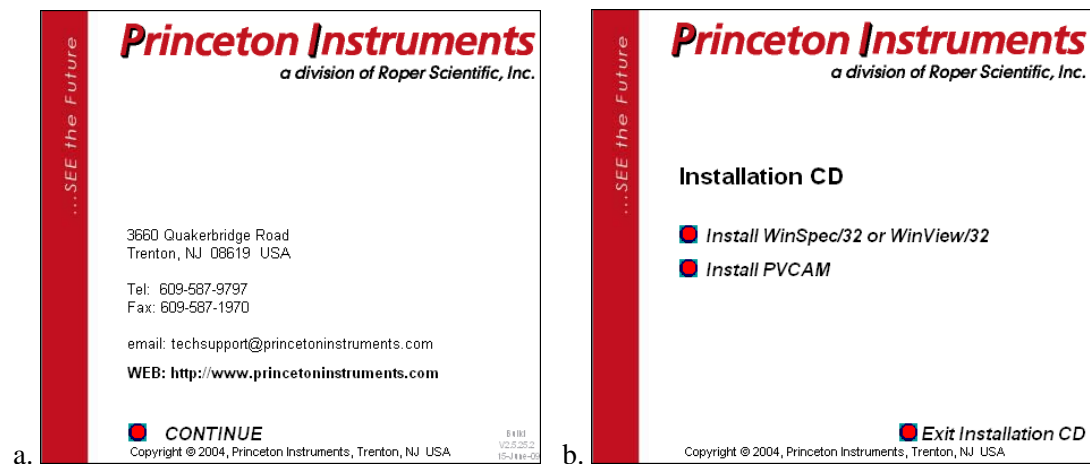

Figure 205. WinSpec, WinView, or WinXTest Selection dialogs
1. Start the installation program, click on **CONTINUE**, click on **Install WinSpec/32 or WinView/32**, and then click on **Install WinSpec/32 for Windows**. Refer to Figure 205 below.